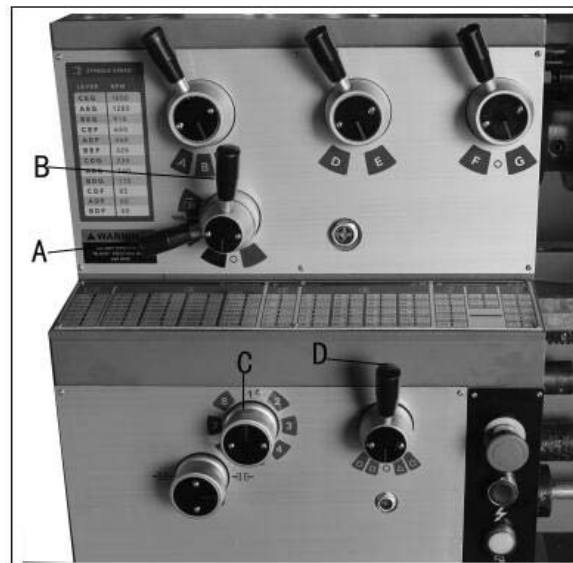

Figure 21
2. Set selector levers (A, B, C, D, Fig. 21) to desired rate.